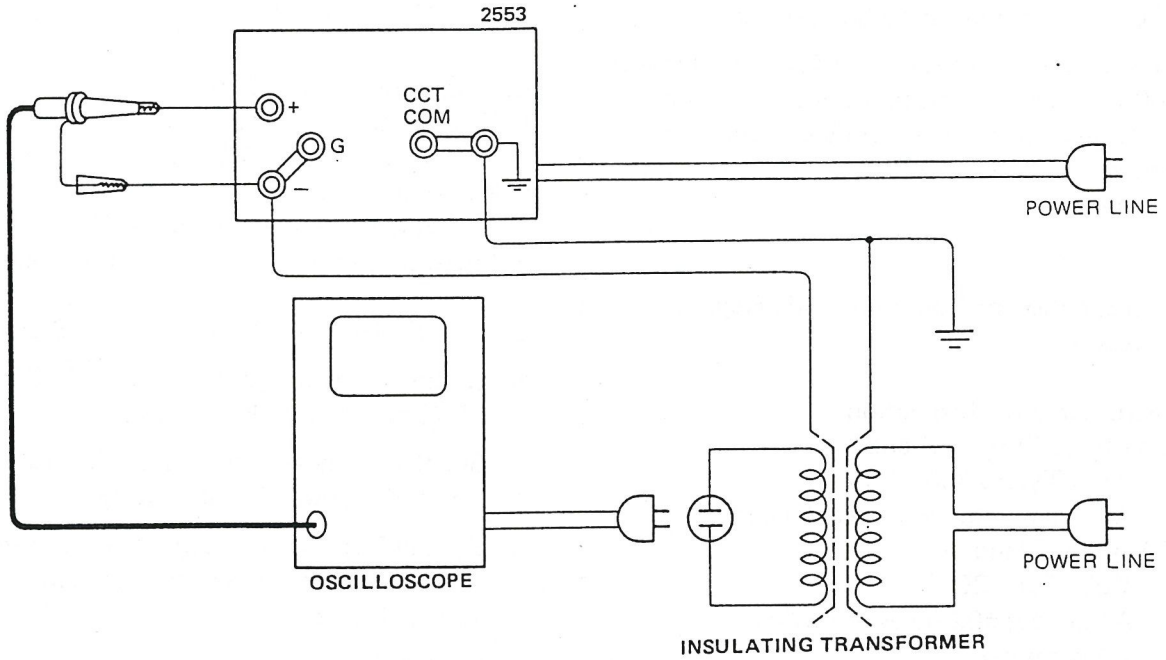

Figure 2-6. Setup for Ripple and Noise Inspection at Voltage Output.
- a) Connect this instrument, insulating transformer and oscilloscope with its frequency bandwidth set at 100 Hz, as shown in Figure 2-6.